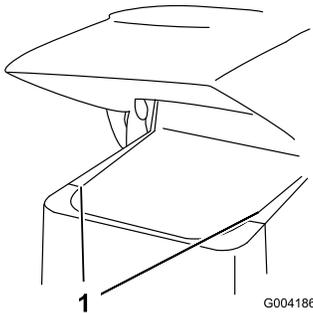

Figure 28
2. Slide the side screens (Figure 28) up and out of the slots in the front screen and frame.